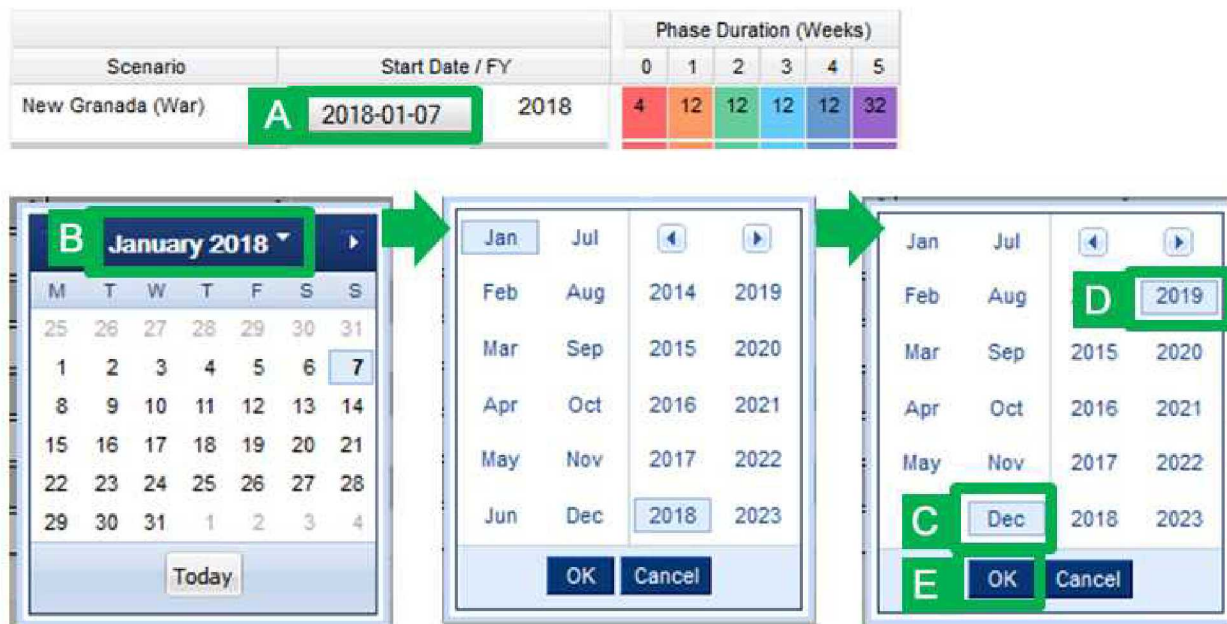

Figure 10. Selecting the month and year for a start date.
1. Click on the date in the Start Date column (step A in Figure 10).
3. Click on the right/left arrows to move forward or backward a month. Or click on the month name (step B in Figure 10).
5. Select a start month from the list on the left (step C in Figure 10).
6. Select a start year from the list on the right (step D in Figure 10).
7. Click “OK” (step E in Figure 10).